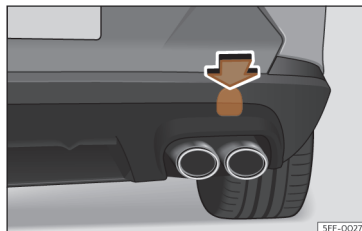

Fig. 211 Rear bumper on right: remove the lid.
The housing of the screw towing eye is on the right side of the rear bumper behind a lid >>> **Fig. 211**.
- Press the upper side of the lid >>> **Fig. 211** to unclip it.